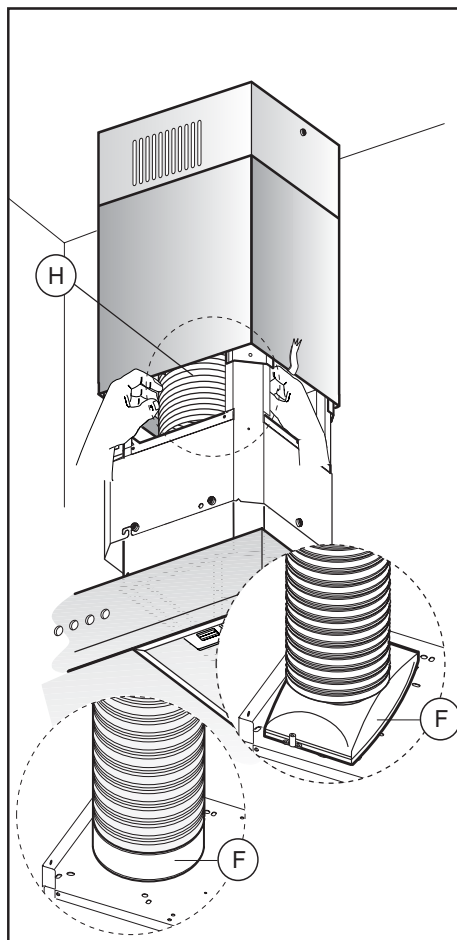

Fig.12
- Fix the air evacuation pipe **H** (not supplied) onto the connection flange **F** (Fig.12)